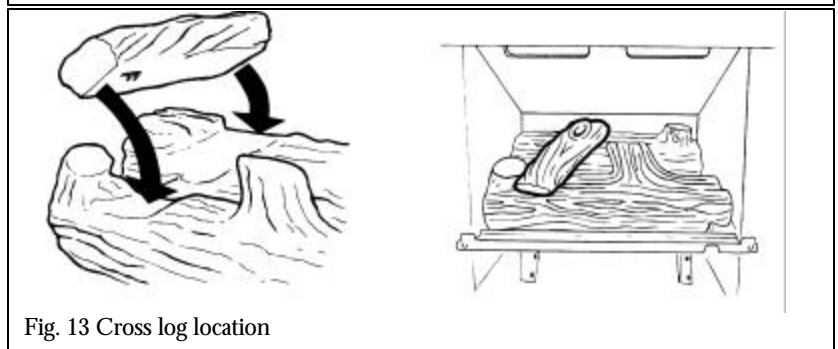

Fig. 13 Cross log location
8.3 Place the cross log in position (see fig. 13). The front of this log is indicated by the letter "F" embossed on its underside. Make sure that the front of the log is seated inside the follow in the front log and is not raised in front of it.